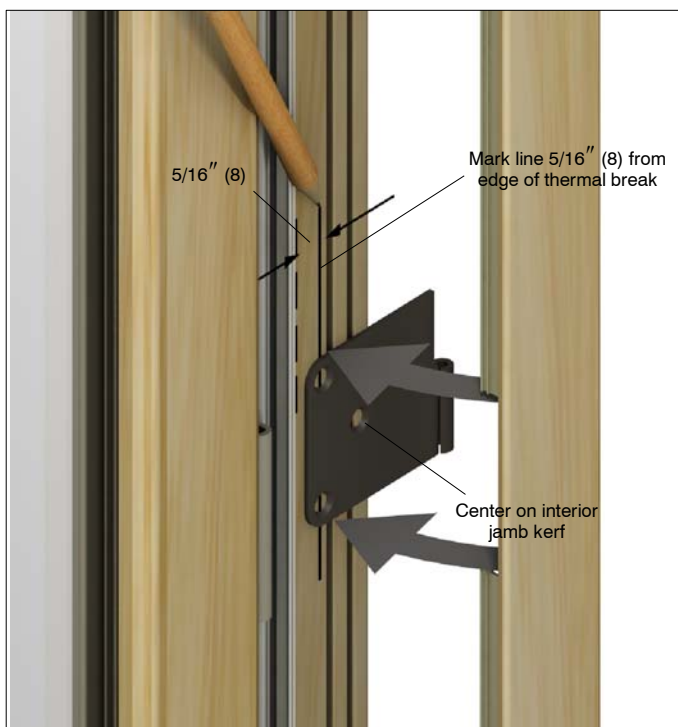

Figure 3
3. Remove stop, measure and mark a 3" (76) long line 5/16" (8) in from the interior edge of the thermal break. See figure 3.